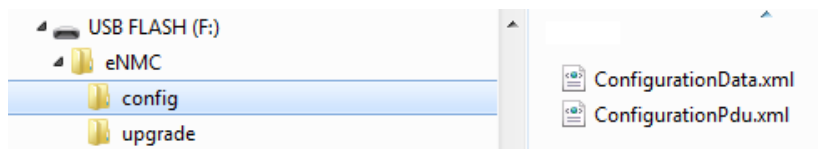

Figure 65. Example USB Root with eNMC Config Directory
7. Click **OK** to continue when a successful pop-up message displays the following see Figure 65):